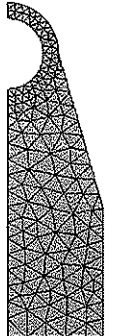

Figure 7-52 Oriented view of the model
- 10. Orient the model using the tools available in the **Graphics** toolbar, as shown in Figure 7-52.